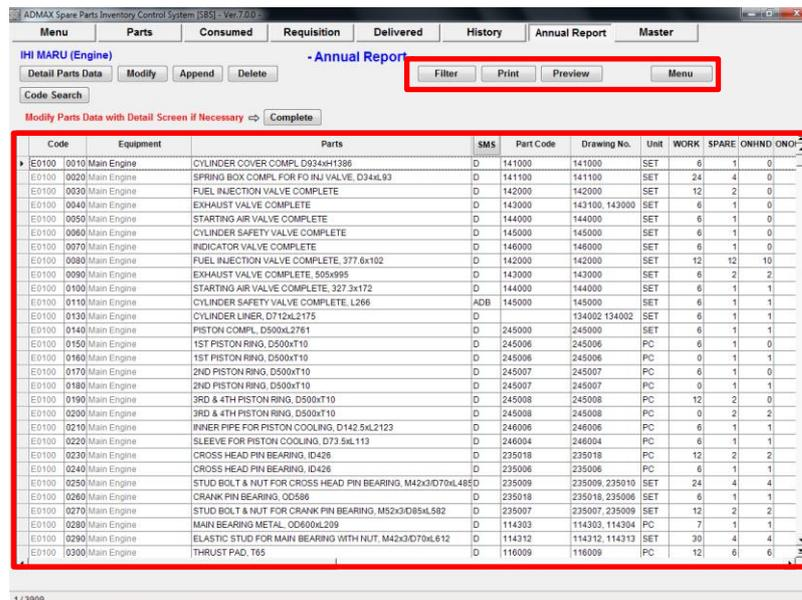

Fig 10.2 Parts List
2. “Parts List Screen”(Fig.10-2) is displayed. In this screen, all spare parts registered in master database are shown.